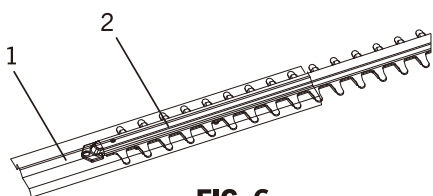

FIG. 6
1. Slide the blade guard (1) over the cutting blades (2) (Fig. 6).